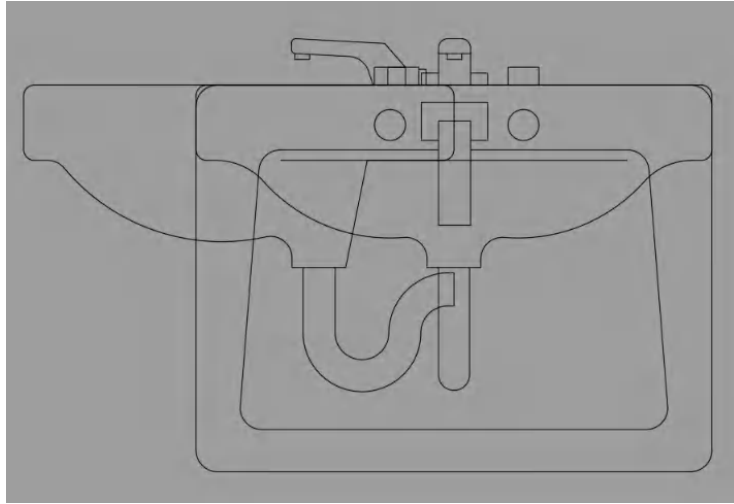

Figure 12.20: The three regular blocks placed in Block Editor
9. You now have a somewhat jumbled view in **Block Editor** of the three regular blocks, as shown in *Figure 12.20*.